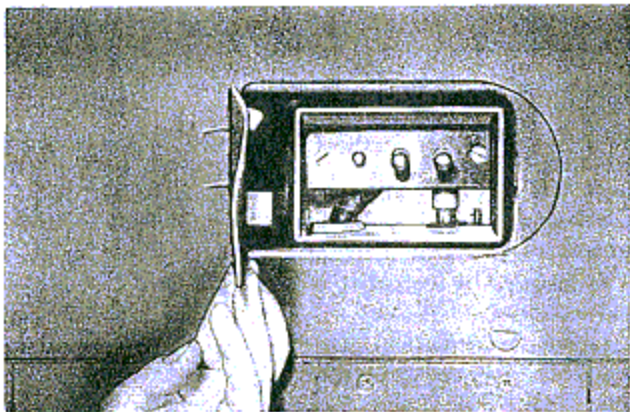

Figure 26—External Power Cart Receptacle (AF42-106029 and Subsequent)
(1) **ELECTRIC STARTING.**—Always use external power—24 volt dc when it is available, for starting the engine. Plug cart battery into external power cart receptacle (figure 26). The battery line switch should be "OFF" when external power is employed.